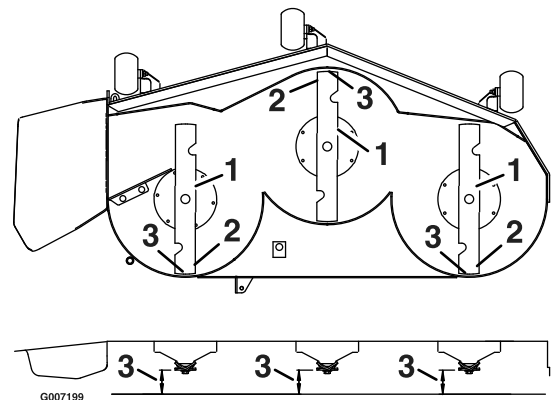

Figure 42
8. Carefully rotate the blades so they are facing front to rear (Figure 42).
9. Measure from the tip of the front blade to the flat surface and the tip of the rear blade to the flat surface (Figure 42). If the front blade tip is not 1/16-5/16 inch (1.6-7.9 mm) lower than the rear blade tip, adjust the front deck hanger.